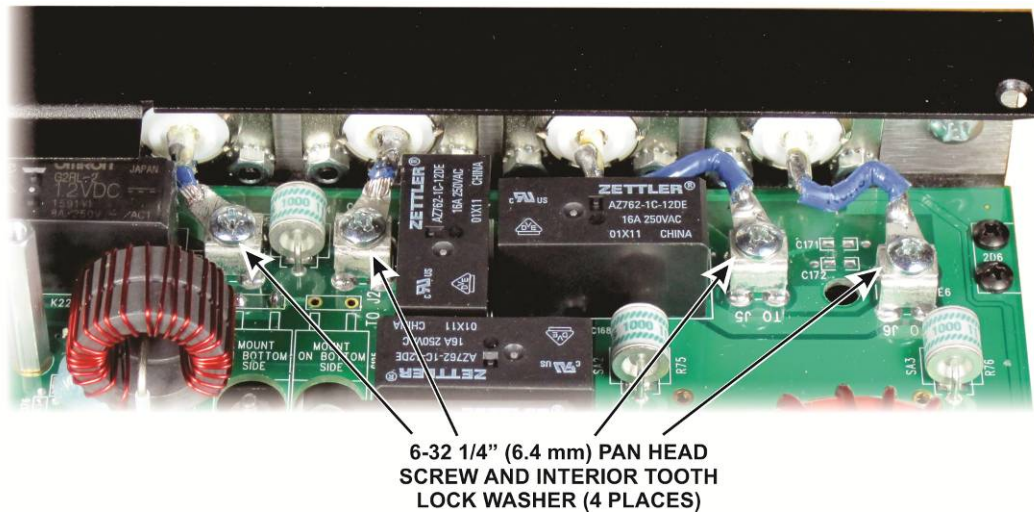

Figure 27. Securing SO-239 Wires to the PC Board Screw Posts.
- ☐ Attach the wires leading to each of the SO-239 connectors to the screw posts on the pc board as shown in Figure 27.
- The four screws securing the SO-239 connector leads to the standoffs on the pc board (Figure 27, page 36).